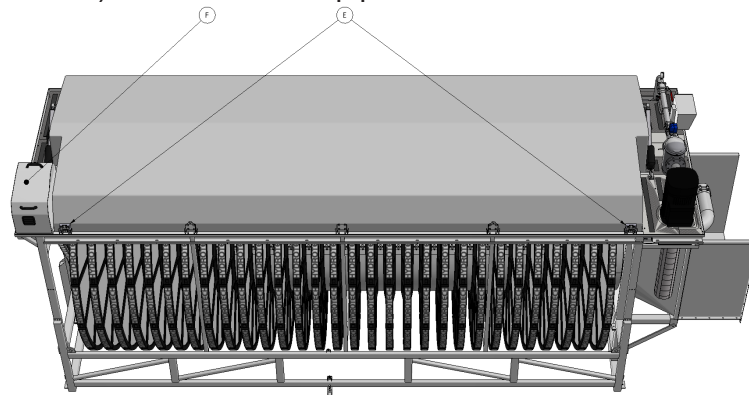

Figure 6.2 Shows the location of the lockable hinges and the drive unit.
The locking pin (A) and the hinge lock (B) must ALWAYS sit on the two outermost hinges (E), as shown in Figure 6.2 or on the opposite side depending on which direction you want the cover to open in.
In order to access the backwash pipe, the hinges must be locked (E in Figure 6.2) on the side of the cover on which the drive unit (F) sits (see Figure 6.2), and the hinges must be open (see Figure 6.1b) on the opposite side, i.e. the backwash pipe side.